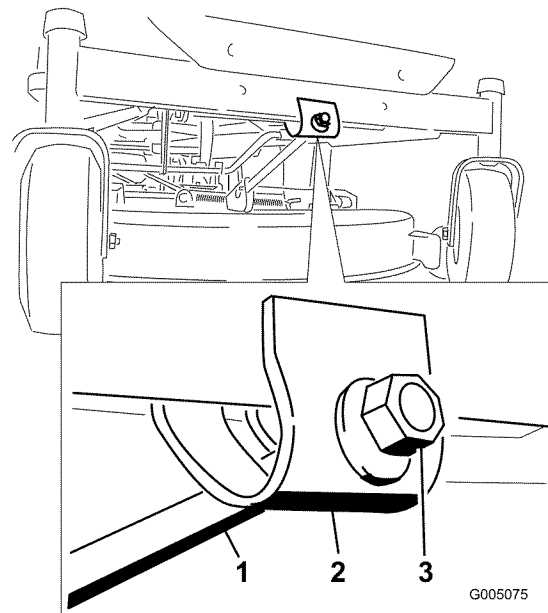

**Figure 50**
4. Carefully rotate the blades so they are facing front to rear (Figure 49 and Figure 50).
5. Measure from the tip of the front blade to the flat surface and the tip of the rear blade to the flat surface (Figure 49 and Figure 50). If the front blade tip is not 1/16-5/16 inch (1.6-7.9 mm) lower than the rear blade tip, adjust the front locknut.
8. After adjustment, check the front-to-rear slope again. Continue adjusting the nut until the front blade tip is 1/16-5/16 inch (1.6-7.9 mm) lower than the rear blade tip (Figure 49 and Figure 50).